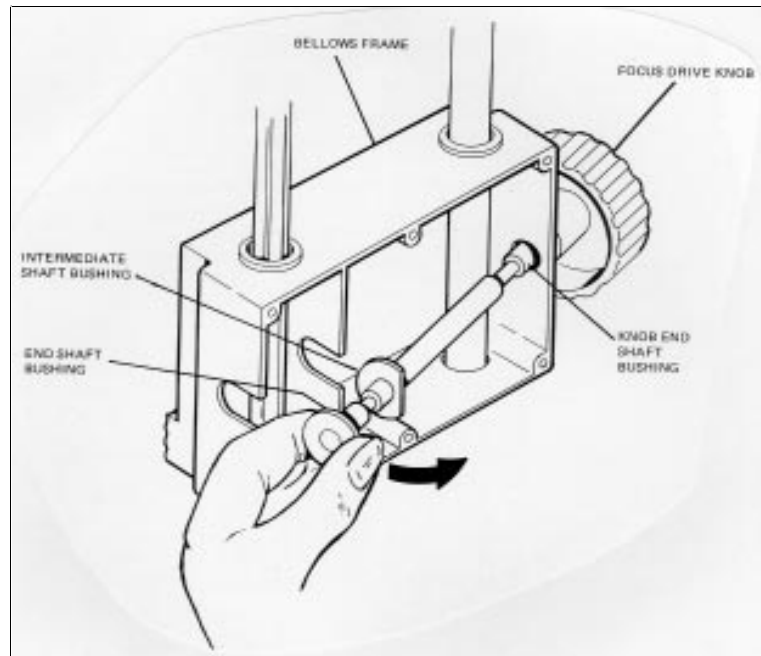

Figure 5-10. Replacing Focus Drive Parts
- 3) Lift the focus drive shaft (see figure 5-10) and remove the end and intermediate shaft bushings.